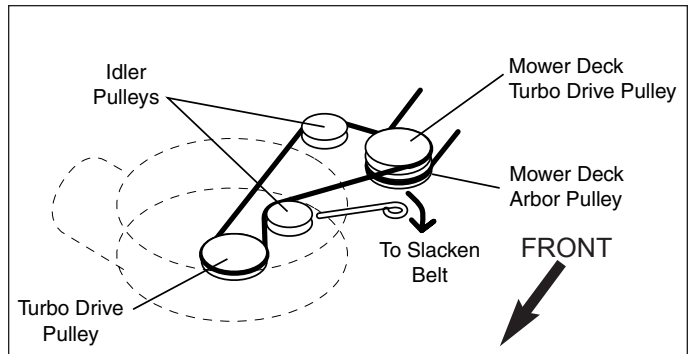

Figure 18. Turbo Belt Routing
1. See Figure 18. Attach the turbo belt to the top RH pulley on the mower deck. Pull back on the belt tensioning lever to slacken the belt. A view (from right front of mower) of the belt routing is shown at right.